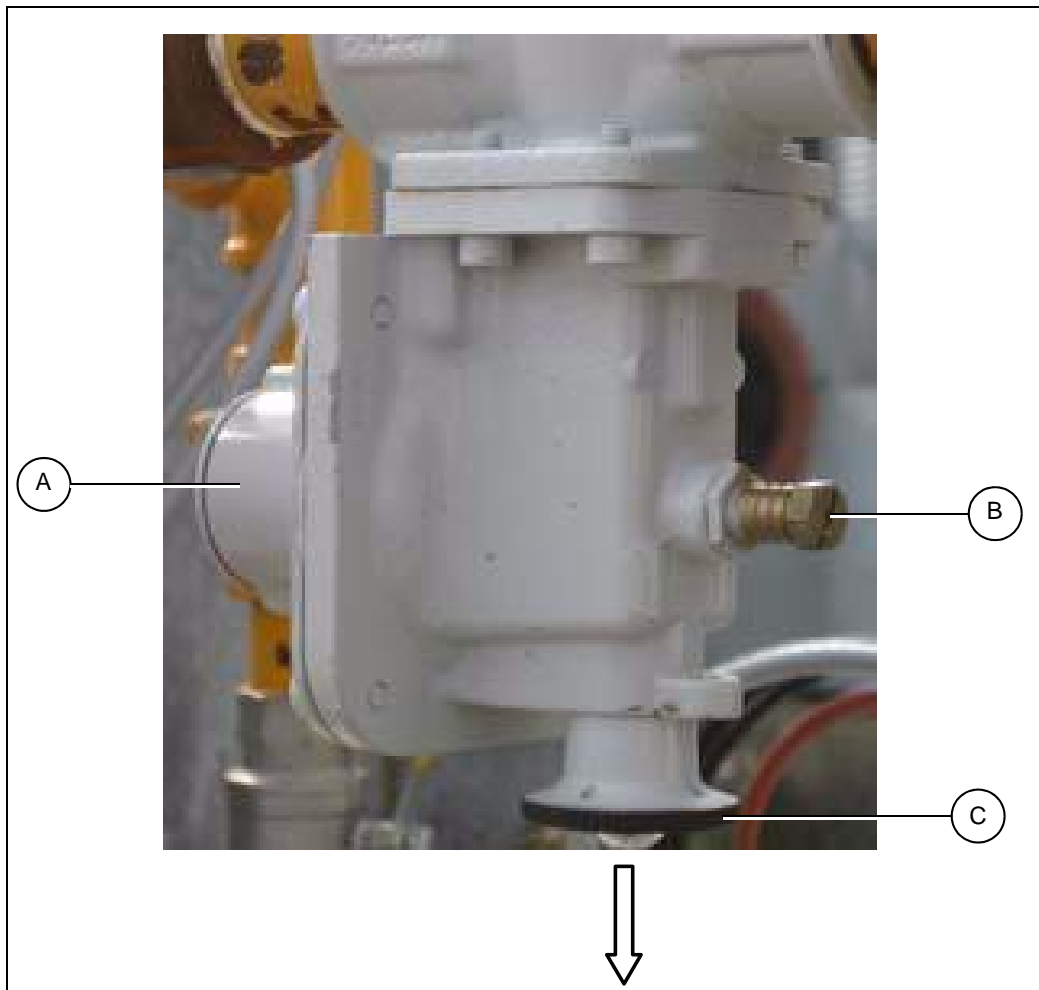

Figure 5A Over Pressure Safety Valve
3. Unscrew re-set and pull down to ensure the valve is open. (See Figure 5A on Page 33.)